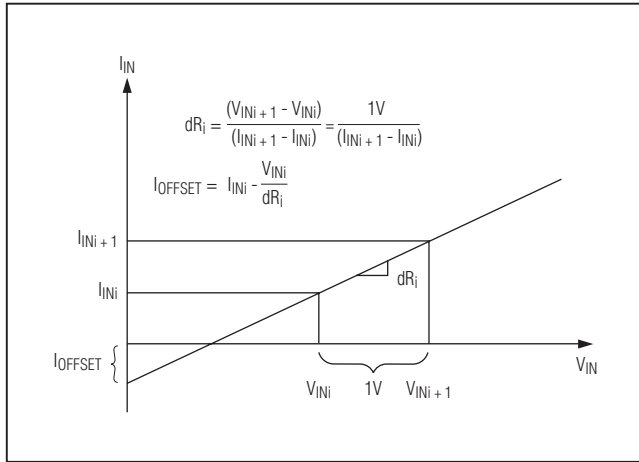

Figure 1. Effective Differential Input Resistance/Offset Current
- Note 4:** The input offset current is illustrated in Figure 1.
- Note 5:** Effective differential input resistance is defined as the differential resistance between  $V_{DD}$  and  $V_{SS}$ . See Figure 1.